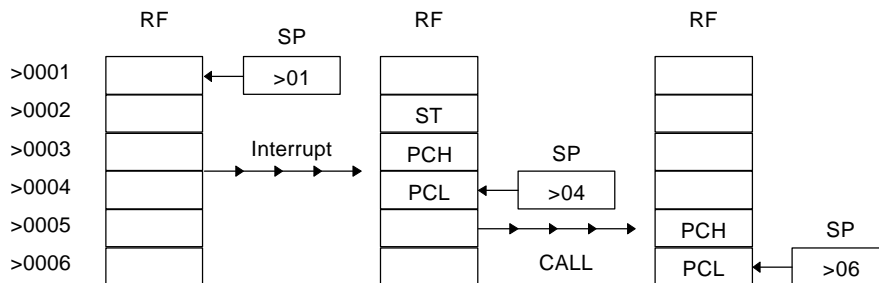

Figure 4.4 Example of Stack Initialization in the Register File
4.4 Stack Pointer (SP)
The Stack Pointer(SP) is an 8-bit register in the CPU that is typically used to hold a pointer in RAM (the Register File). However, the SP can also be used as temporary data storage if a stack is not implemented, or if the SP contents are not needed. When a stack is implemented just before data is pushed onto the stack and automatically decremented immediately after data is popped from the stack. Upon assertion of the RESET function (see Section 4.7) >01 is loaded into the SP. The size of the stack can be changed from the 254-level stack at RESET to a smaller stack by executing a stack initialization program as illustrated in Figure 4.4. This feature allows the stack to be located anywhere in the Register File. The SP is initialized through the B register (R1).